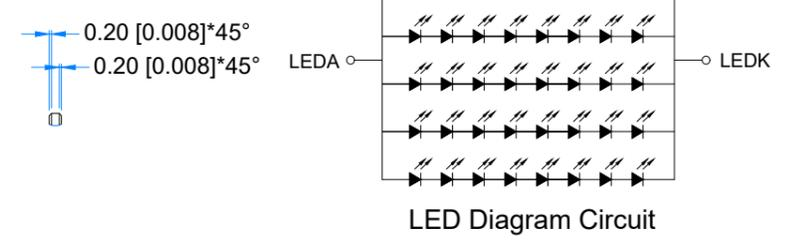

*Figure 1. Mounting Frame*
For dimensions 3.5", 4.3", 5.0", 7.0", 10.1" and 12.1", the product with mounting frame version is available. Thanks to the four catches attached to the side, frame provides strong assembly to the surface by mounting element (like the screw, see Figure 1). The frames are specially designed to fit Riverdi products perfectly. The diameter of the mounting hole is 3.5mm.
**Note 4.** Response time is the time required for the display to transition from white to black (Rise Time, Tr) and from black to white (Decay Time, Tf). For additional information see Figure 1. The test equipment is BM-7A.